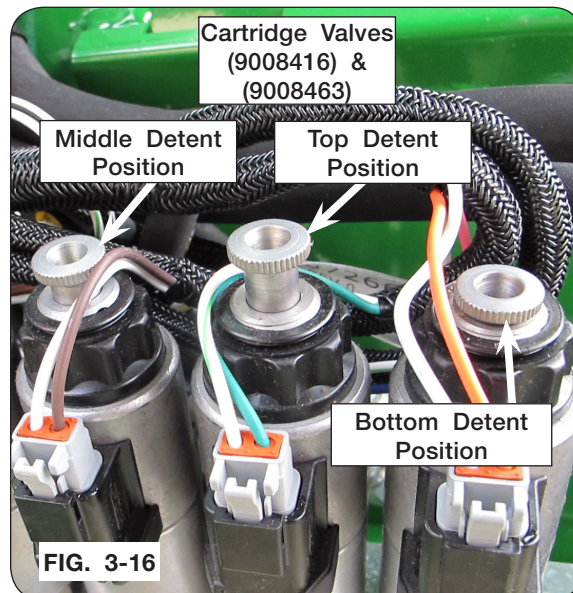

FIG. 3-16
NOTE: Only one cartridge valve (9008416 & 9008463) must be in the top or bottom detent position at a time to function properly. All other valves must be in the middle detent position. (FIG 3-16 & 3-17)
5. Operate the desired function on valve (9008416 & 9008463) by rotating the manual override knurled knob from the locked neutral position. (FIG. 3-16 & 3-17)
8. Return knurled knob to center and lock valve (9008416) & (9008463) in position. (FIG. 3-16 & 3-17)